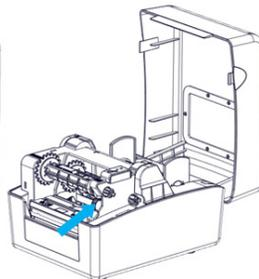
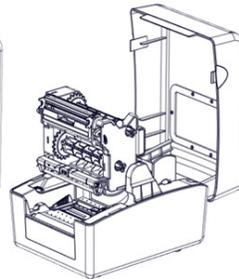

Figure 2.2.2
Figure 2.2.3
- 2) Press the ribbon holder lift lever in the direction of the arrow shown in Figure 2.2.2. After the ribbon holder is lifted, turn it upward for 90° as shown in Figure 2.2.3;